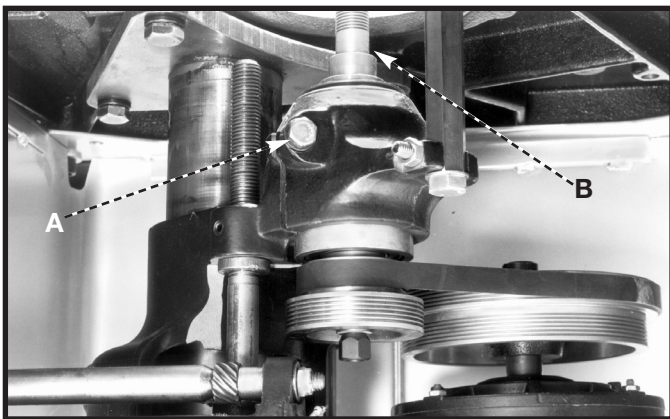

Fig. 45A
1. **IMPORTANT:** When replacing the spindle cartridge (B) Fig. 45A, loosen the bolt (A). Remove the spindle cartridge. Replace with a new spindle cartridge. Tighten the bolt (A) **ONLY** 7 to 10 foot pounds.